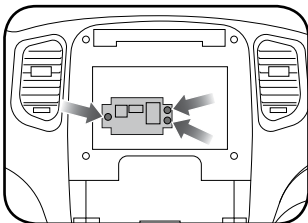

Fig. 1.3
- Remove the (3) 7mm bolts that hold the module to the back of the radio cavity. In order for the new radio to fit, this module must be relocated. (Fig. 1.3)